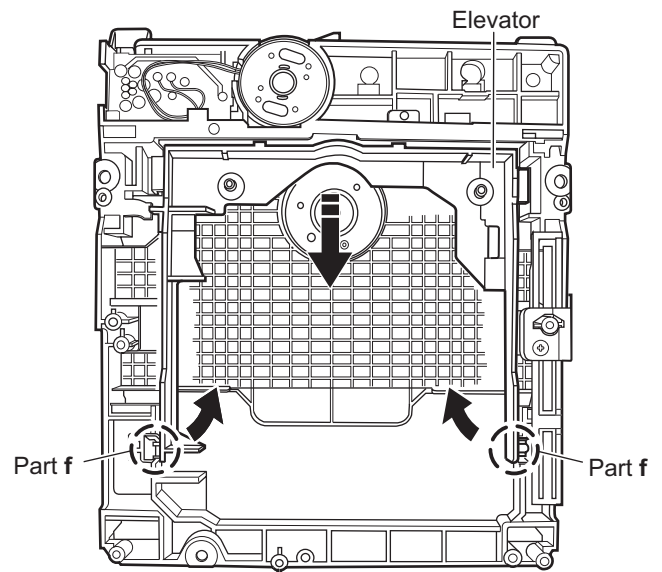
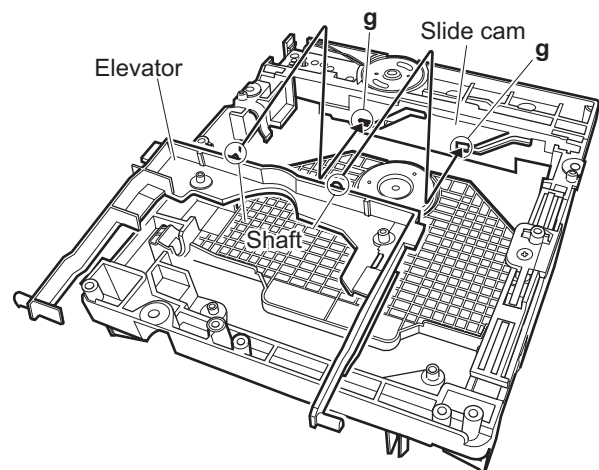

Fig.8
Fig.9
3.2.3 Removing the elevator (See Figure 8 and Figure 9)